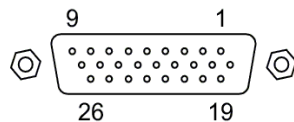

Figure 2-4: The ANALOG Connector
- pins 9 of the ANALOG connector on the back panel of the *Model L20* (Figure 2-4) provides a 5V digital signal that turns low when emission occurs.